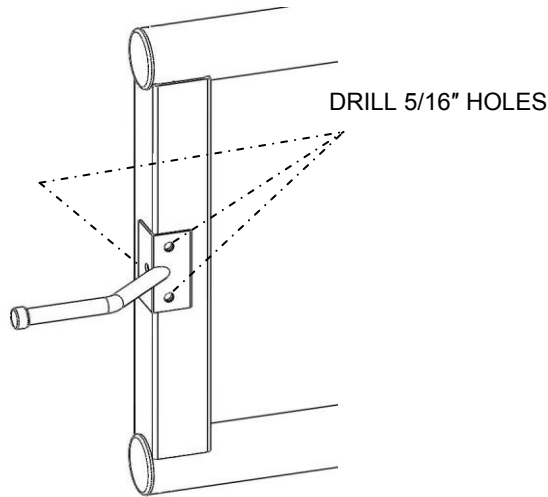

FIG. 6.30
- 6.10.4. Center finger catch on the gate square tube opposite the hinge and mark center of holes with a pencil. Drill three 1/8" holes through one side of the vertical handrail tube (FIG. 6.30).